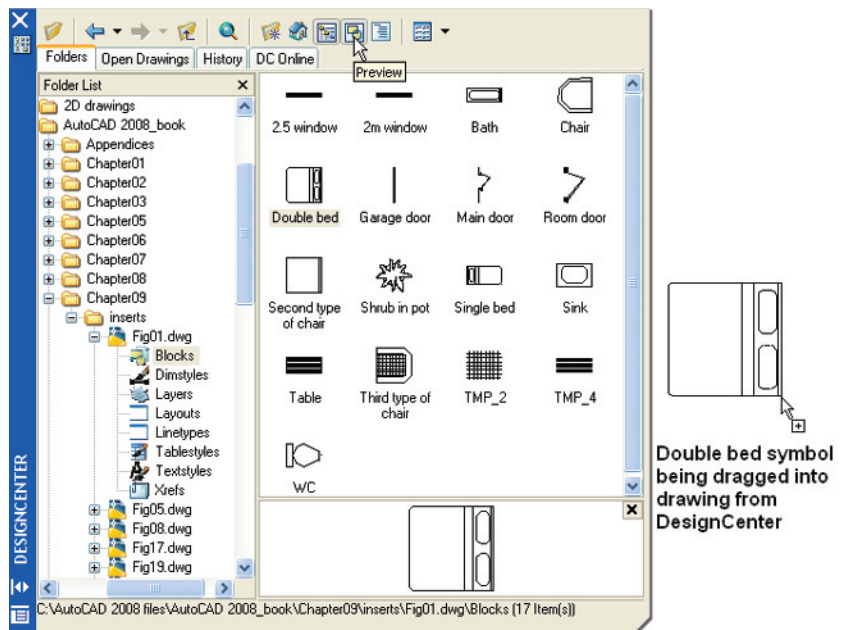

Fig. 9.10 The **DesignCenter** with the double bed block dragged on screen
2. Left-click **DesignCenter** in the **Standard Annotation** toolbar (Fig. 9.9) or press the **Ctrl+2** keys. The **DesignCenter** palette appears on screen (Fig. 9.10).